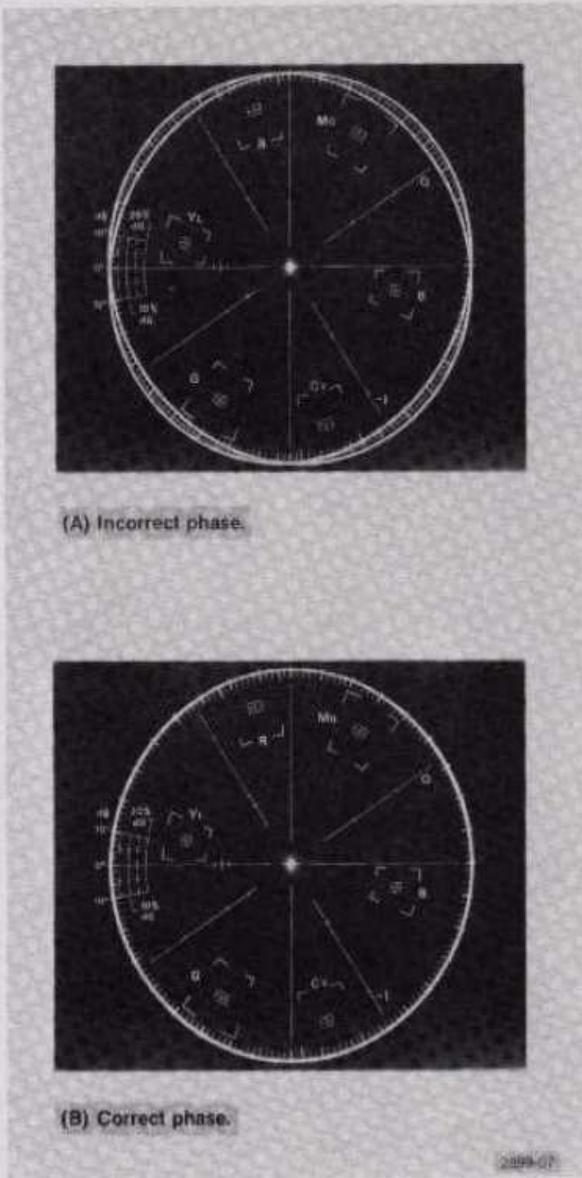

Fig. 5-29. Quadrature phase.
- b. ADJUST—L1666 (Quad Phase) to overlay the test circles (see Fig. 5-29).